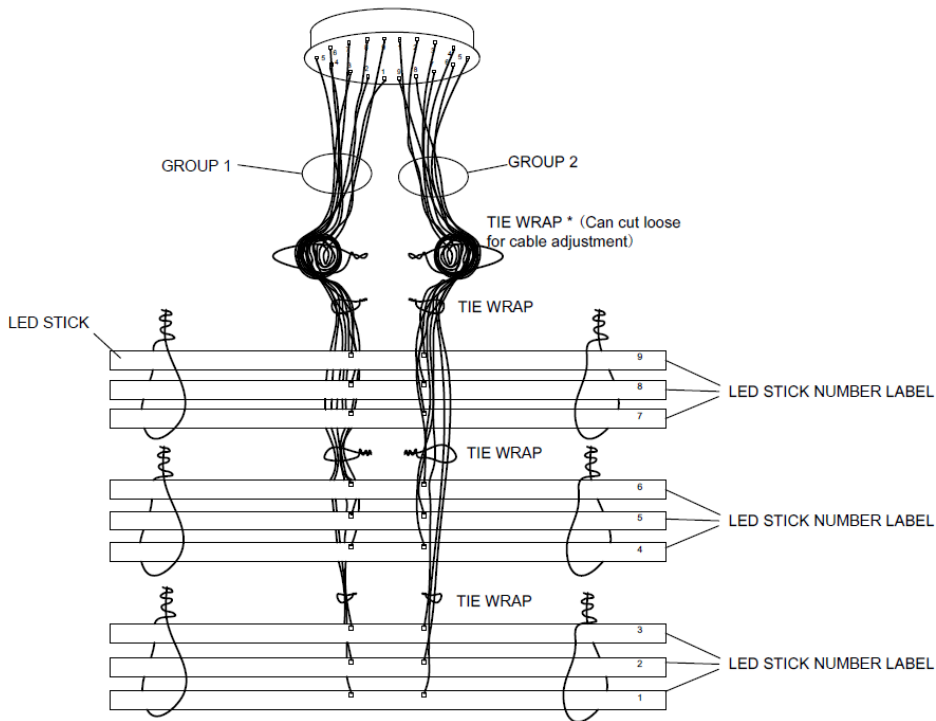

Fig. 1
5. Layout the LED sticks (with the diffuser facing down) on a protective surface and replicate the order in Fig. 1.
6. Sorting the wires into two groups (see Fig. 1). Each group consists of wires from 1 to 9 (no duplicated numbered wire in each group).